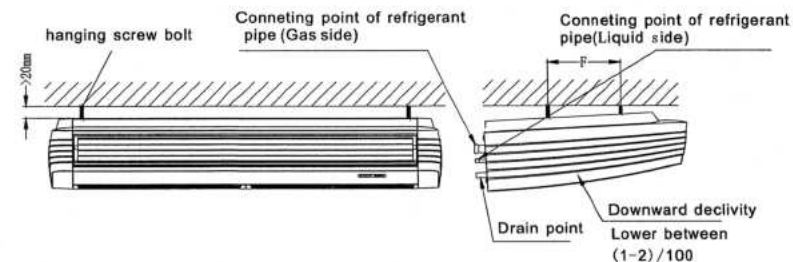

Fig 16
- Hang the unit on the hanging arm by sliding backward. Securely tighten the mounting bolts on both sides (Refer to Fig 16)